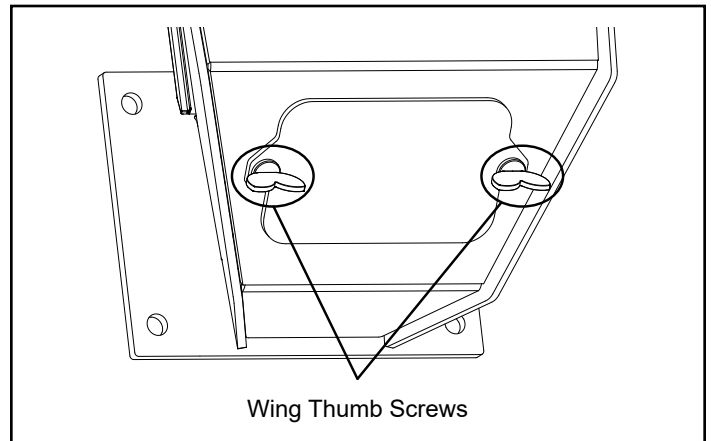

Figure 3.4
- Loosen the (2) wing thumb screws on the lower front angle of the burn pot. Figure 3.4
- Lift off the clean-out cover to open the bottom clean-out chamber. Figure 3.4